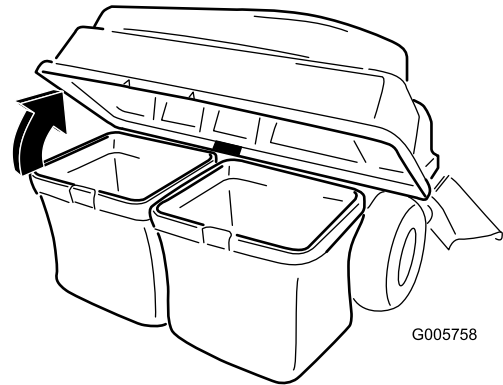

Figure 25
3. Open (raise) the bagger top (Figure 25).